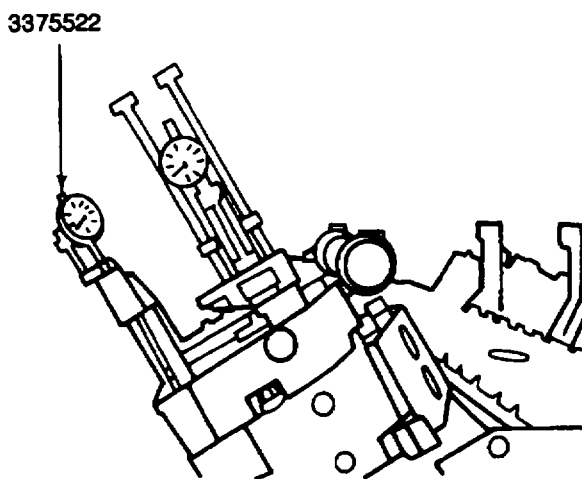

Figure 9-21. Injector Timing Setup
- (c) Position the timing fixture 3375522 in the injector well of the cylinder being checked, engaging the push rod indicator in the injector push rod (Figure 9-21). Tighten the hold-downs evenly by hand.